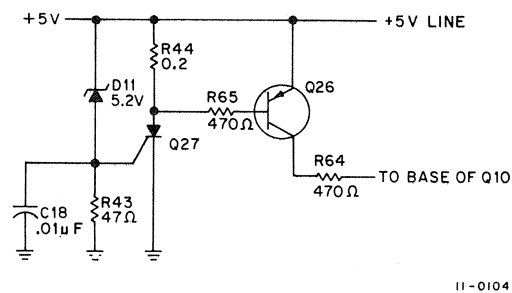

Figure 2-9 Overvoltage Crowbar Circuit
2.4.1.2 Overvoltage Crowbar Circuit — The overvoltage crowbar circuit schematic is shown in Figure 2-9. Under normal conditions, the trigger input to the SCR (Q27) is at ground because the voltage across zener diode D11 is too small to cause it to conduct. As the +5V line approaches 6V, zener diode D11 conducts and the voltage drop across resistor R43 draws gate current and triggers the SCR. The SCR shorts the +5V line to ground through resistor R44, which is a current-limiting resistor. The SCR remains on until capacitors C12, C14, and C16 discharge.